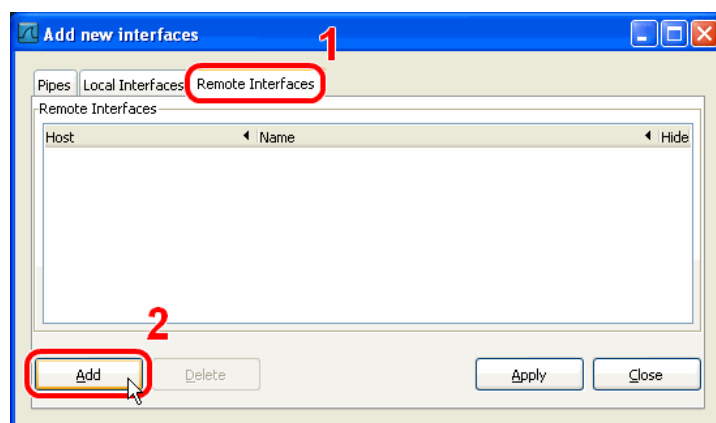

Figure 304: Wireshark Add New Interfaces Dialog.
3. Select the **Remote Interfaces** tab and click **Add** as shown in Figure 304.